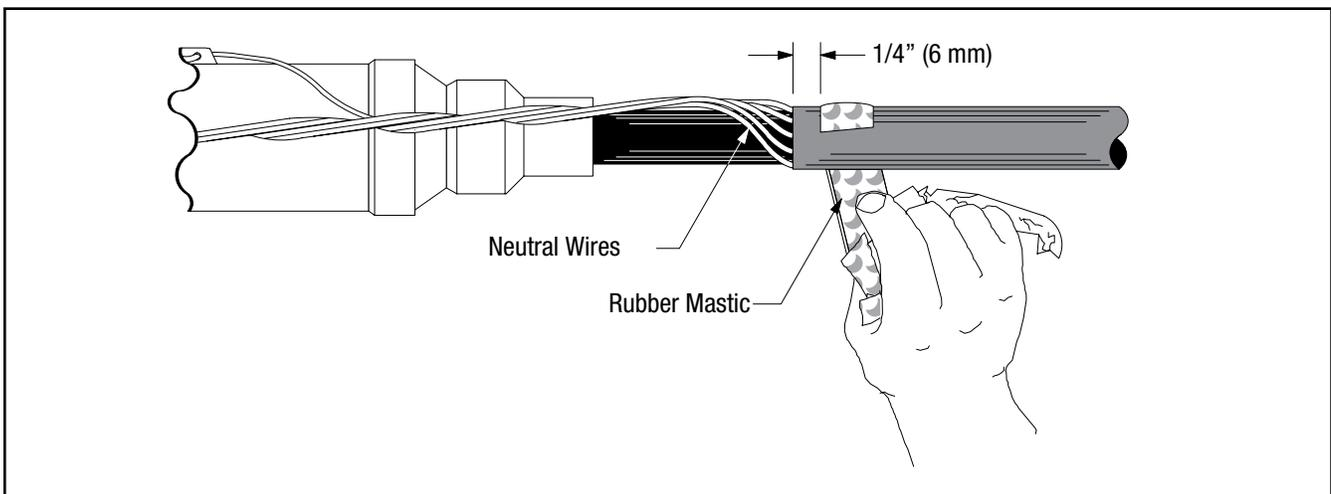

Figure 7
4.1 Apply one roll of slightly stretched rubber mastic tape around each jacket end (tacky side toward cable). If ground wire is connected, apply tape over mastic sealing strips. Stretch and tear off the end of the rubber mastic (Figure 7).